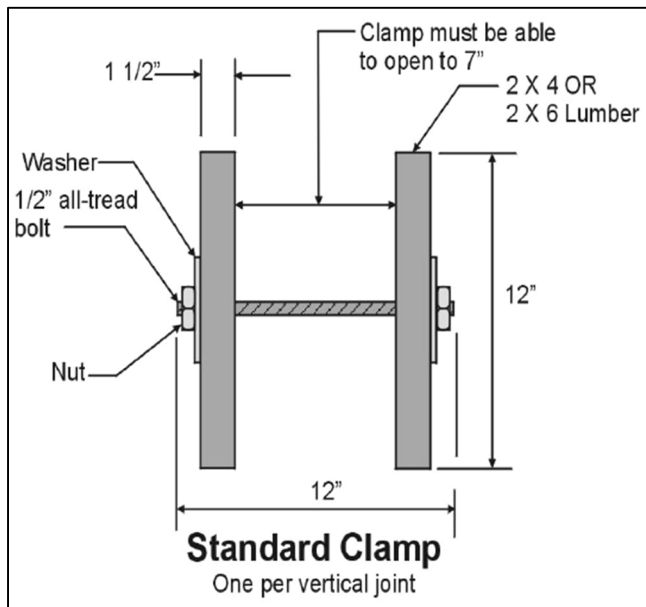
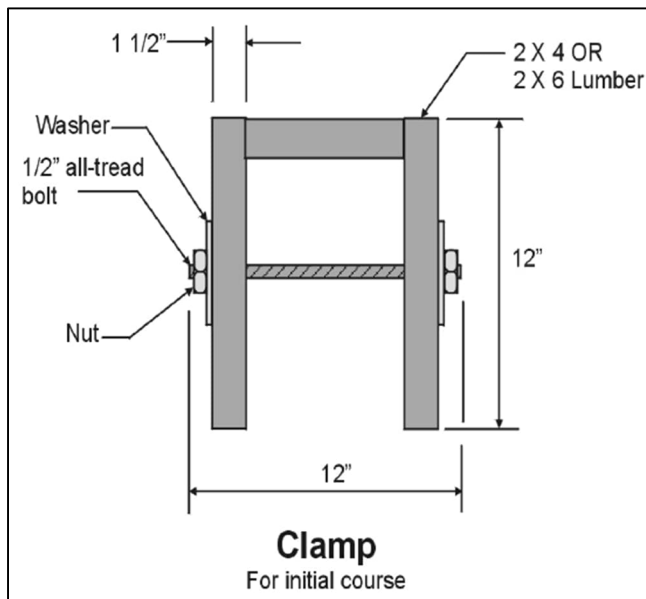

Figure 2: Standard clamp.
Figure 3: Clamp for initial panel course.
- Clamps – one per vertical joint for the length of the structure under construction. Additional clamps will be needed to brace the initial course of panels (Figure 2 and Figure 3).